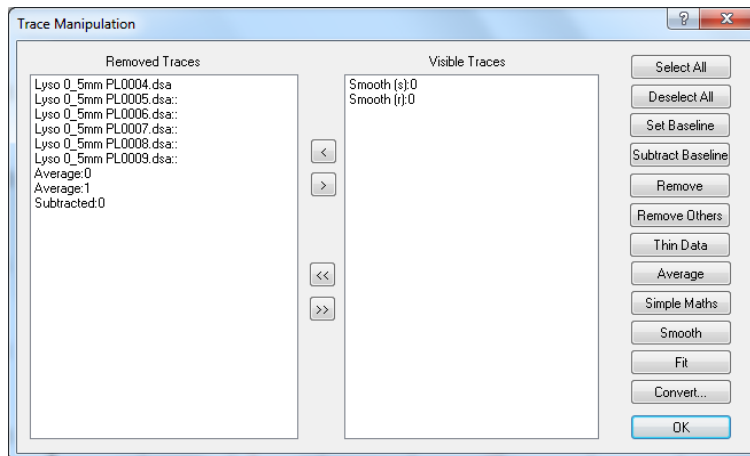

Figure 5.12: Trace manipulation dialog box after spectrum manipulation
2. Select Smooth (s)..... and Smooth (r)..... and click **Remove Others**. The Trace manipulation dialog box will appear as in Figure 5.12.